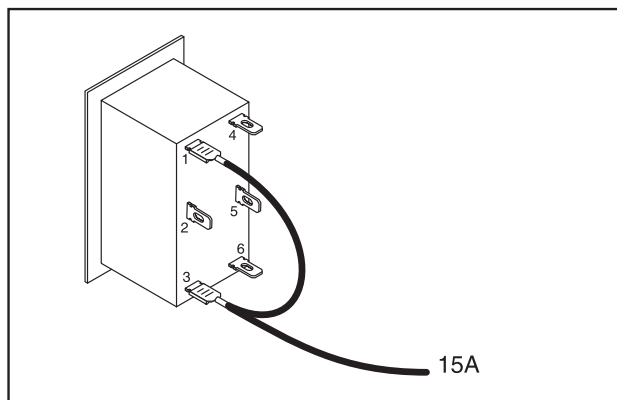

Figure 3. Wires 15A
2. For Problem 8 Only: If the switch passes the tests, verify the REMOTE NOT AUTO dipswitch is set to OFF on the circuit board (see Figure 3, page 4.1-2) then proceed to Test 44.